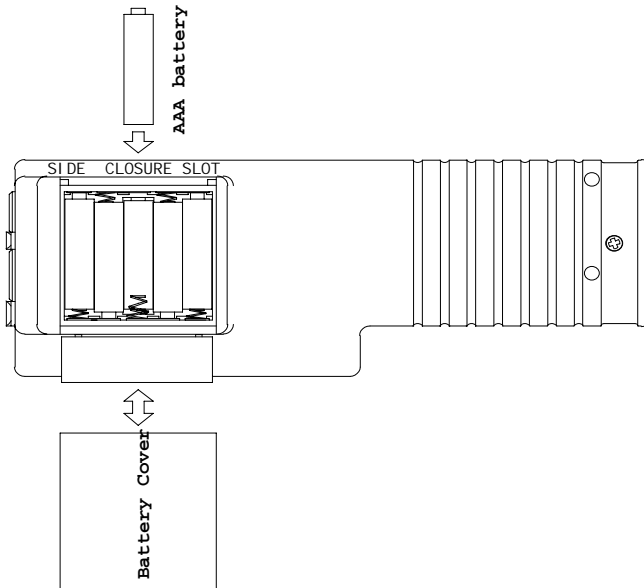

Figure 5
1. Position the meter so that the bottom part of the meter is facing up . (Refer to figure 5.) Insert a coin in the side closure slot. Tilt the coin and thrust it upward to open the battery compartment and lift the closure up.